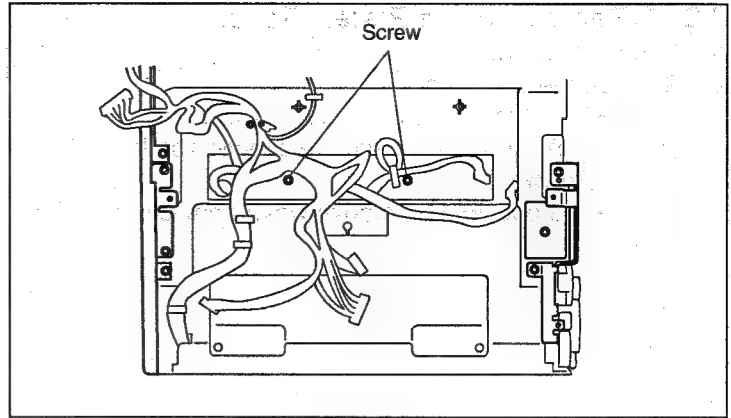

Fig. 7-54
- 4) Remove 2 screws, as shown in Fig. 7-54.